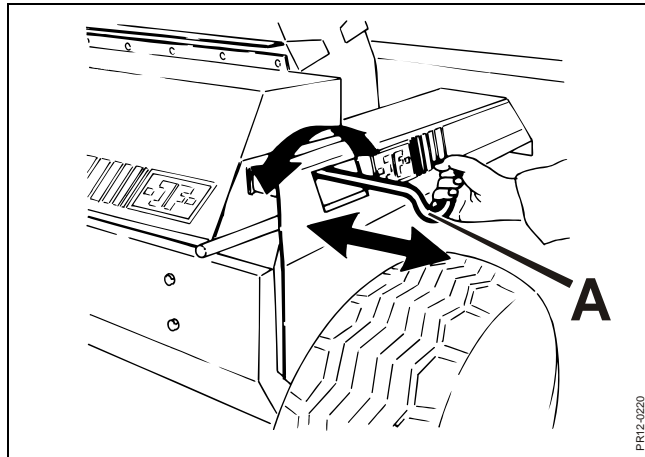

Fig. 4-17
- Fig. 4-17** 7. Feed carefully by turning the handle **A** until the stone touches the blade. Move the stone in a sliding movement across the whole rotor and back again. Feed some more and repeat the movement across the whole width of the rotor.